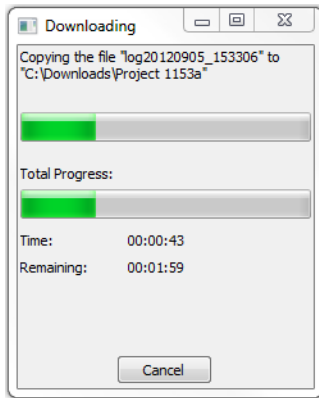

Figure 5-3. Downloading in Progress
- When the process of transferring the file(s) from the receiver to the computer begins, the **Downloading** window (Figure 5-3 on page 5-3) displays the download in progress.